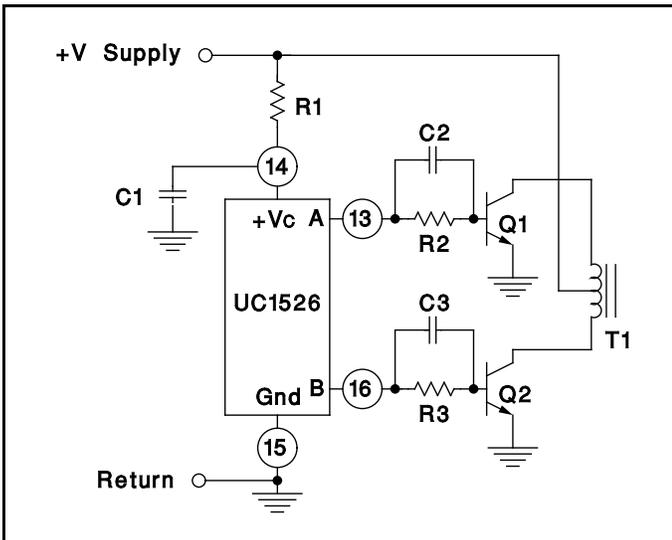

Figure 7. Push-Pull Configuration
1. With  $R_D = 0$  (pin 11 shorted to ground) select values for  $R_T$  and  $C_T$  from Figure 7 to give the desired oscillator period. Remember that the frequency at each driver output is half the oscillator frequency, and the frequency at the +VC terminal is the same as the oscillator frequency.